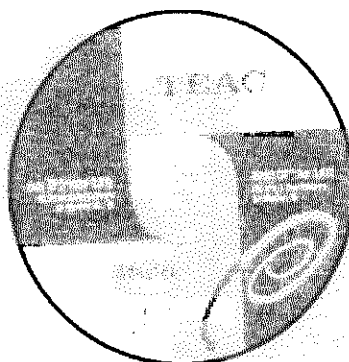

Figure 18. TEAC Adaptec CDR Software Suite CD-ROM
- 1. Insert the TEAC CDR Software Suite CD-ROM (Figure 18) into your computer's CD-ROM drive or into the TEAC CD-Recorder.**